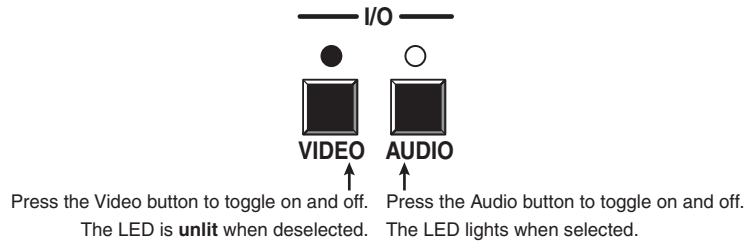

Figure 3-16 — Select audio only
2. To select audio only for the tie, if necessary, press and release the Video button and the Audio button (figure 3-16).